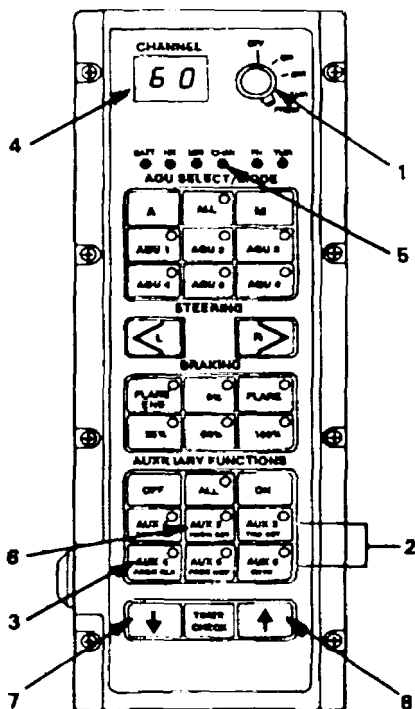

Figure 2-11. T/C and Timer Programming (Sheet 1 of 3)
- a. T/C Programming. (See Figure 2-11.)
- (1) Set rotary switch (1) to PRGM. Auxiliary switches AUX 1 through AUX 6 (2) become programming switches as indicated by the red print on them.
- (2) Press AUX 4 (PRGM CLR) switch (3). Observe that the CHANNEL display (4) displays 01 and the red CHAN LED (S) lights.
- (3) Press AUX 2 (PRGM SET) switch (6). Observe that the CHANNEL display (4) displays 01, indicating that channel I has been selected, and that the red CHAN LED (5) blinks.
- (4) Select the channel that the system is intended to operate by pressing the down arrow (7) or up arrow (8) switches. Refer to table 2-2.